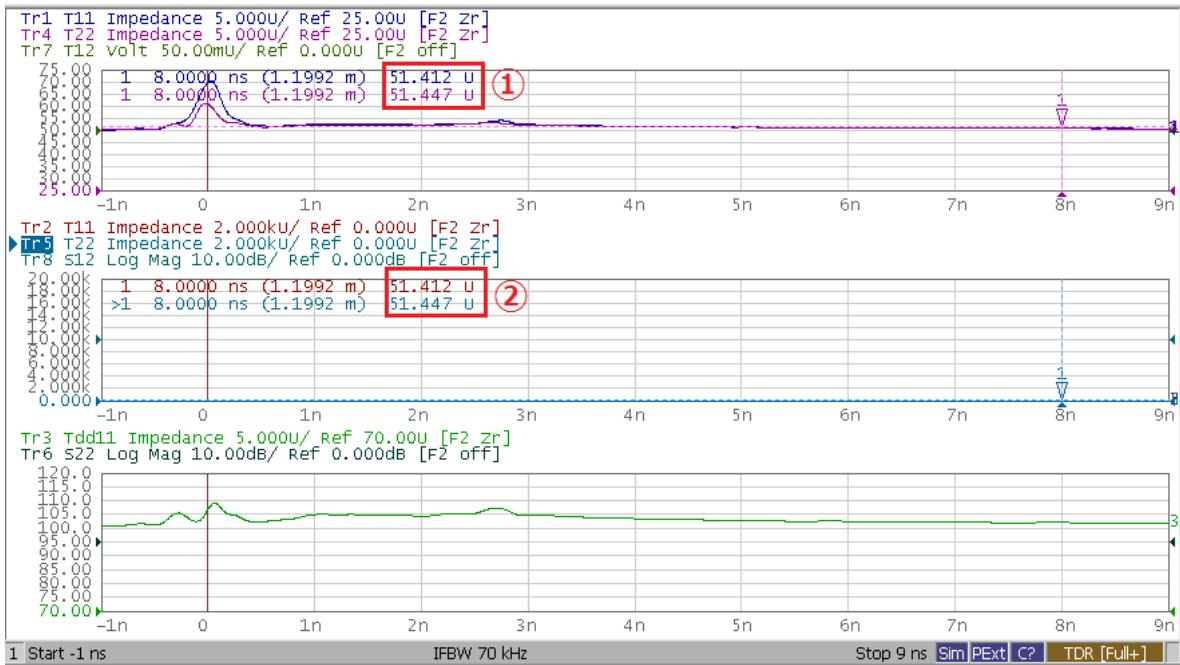

Figure 5-2 Single Ended Output Resistance (R_{SE-TX}) Example
6. Read the marker values¹ (item 1 in Figure 5-2) as $R_{\text{SE-TX}}$ for the TXDP and TXDN pins.
6. Read the marker values² (item 2 in Figure 5-2) as R_{SE-TX} for the TXDP and TXDN pins.